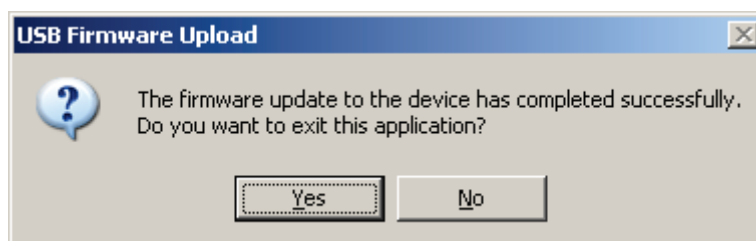

Figure 19
13. The software will prompt the user to exit at this point (Figure 19).